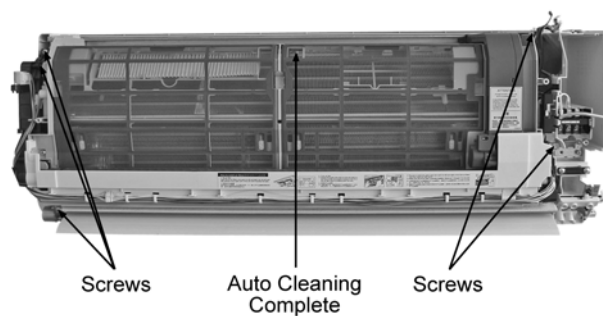

Fig. 8
14. Remove the Auto Cleaning Complete by releasing the 5 screws. (Fig. 8). For detailed instructions, please refer to 16.2 Filter Cleaning Device Complete Removal Instructions.